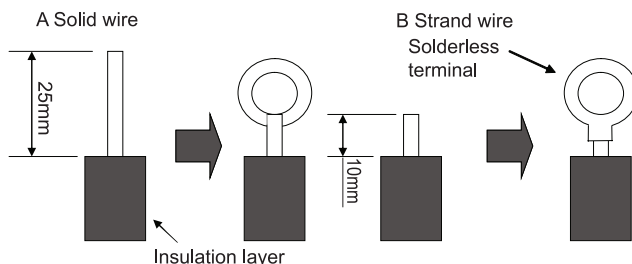

Fig.29
(1). For solid core wiring (Fig.29)
- (2). For strand wiring (Fig.29)